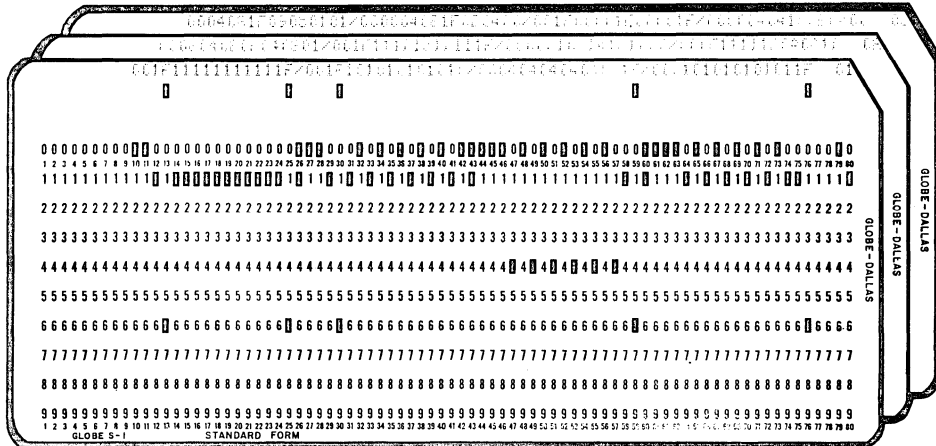

FIGURE 5 – PAPER TAPE FORMAT
2. Hexadecimal coding using ASCII Paper Tape Punch (Figure 5).
3. Transfer the hexadecimal figures either to punched cards (Figure 3) or to paper tape (Figure 5).